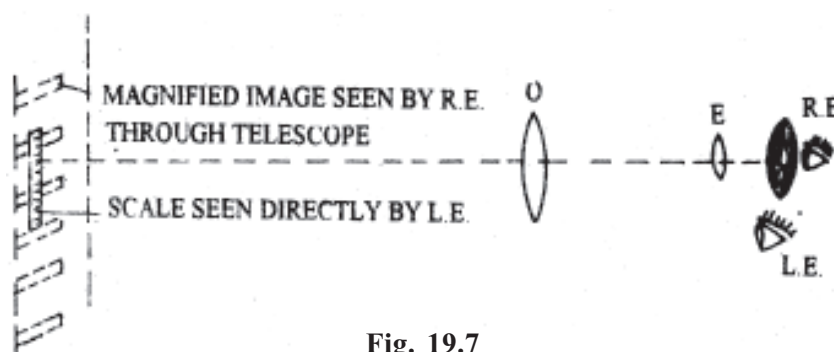

Fig. 19.7
- (ix) Your scale with bold marks is such that it can be seen clearly by your left eye at a distance of upto 20 m. Observe on it the size of the enlarged image of one smallest division see through the telescope by the right eye (Fig. 19.7). Ratio of the size of this enlarged image to size of the division gives the magnifying power of the telescope.